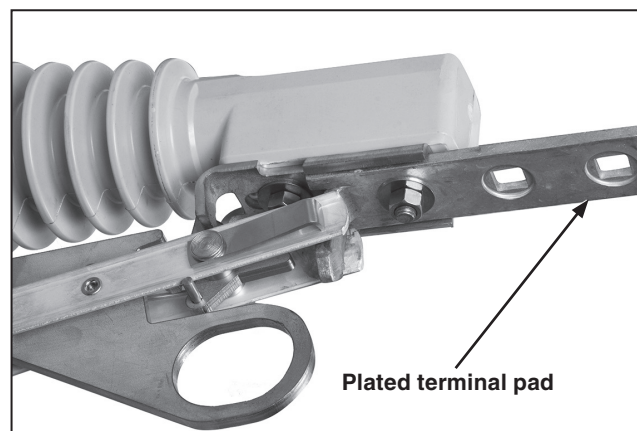

Figure 8. The Scada-Mate SD switch terminal pad. The disconnect pad is shown. Do not wire-brush the surfaces.
STEP 10. Do not wire-brush Scada-Mate SD switch terminal pads. They are plated, and wire brushing will scratch the protective coating. Apply a coating of high-voltage connector grease to these pads before securing the connectors to the terminal pads. See Figures 8 and 9.